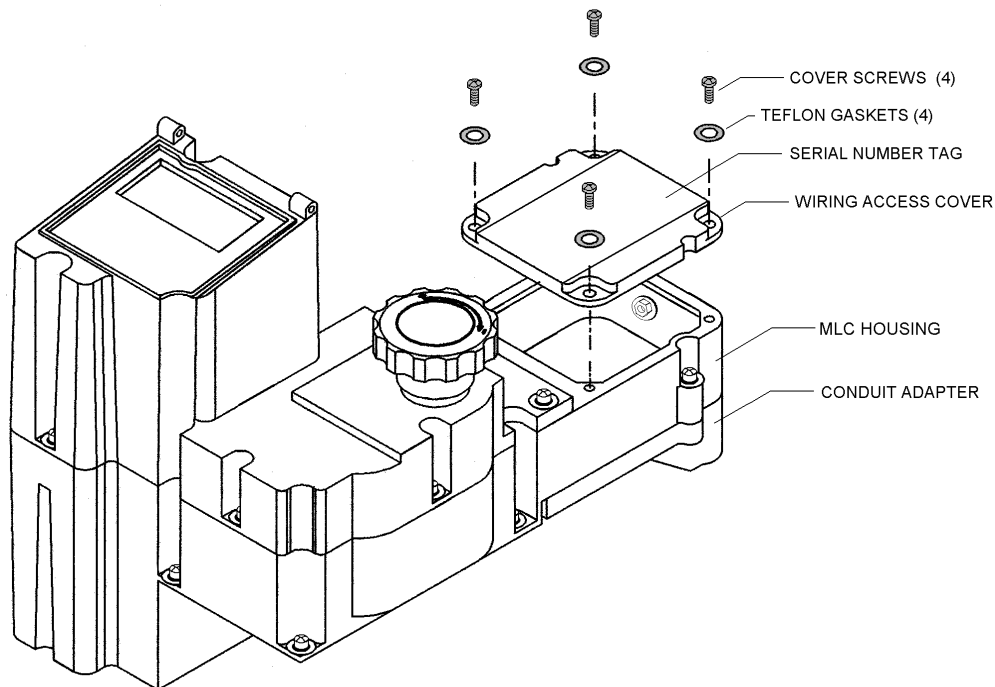

Figure 23 – Wiring Cover Access
3. Remove the four screws and Teflon Gaskets that hold the wiring access cover to the MLC (refer to *Figure 23*).